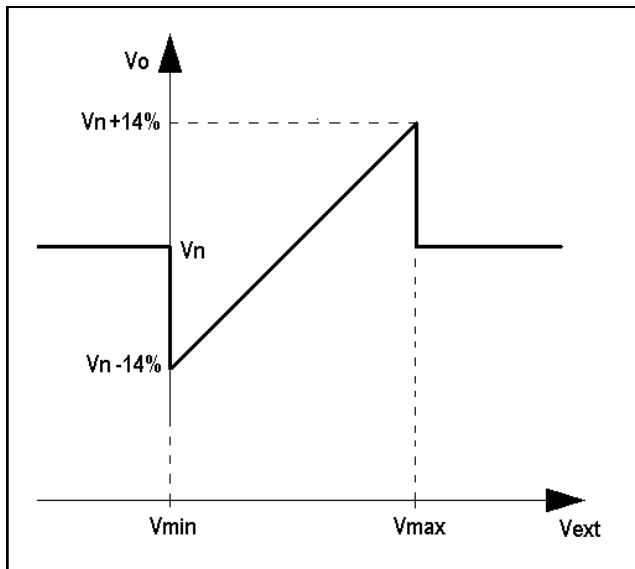

Figure 3a: without saturation of the output voltage upon reaching the input voltage limits
The Vext input (connector CN1 – terminals 10 and 11) permits analogical remote control of output voltage through a 10Kohm potentiometer with a programmable variation range through parameter 16 with respect to the value set (by default the setting is  $\pm 14\%$  (3) starting from revision 10 of the Firmware); if you want to use continuous voltage (4), it will be effective if it is in the range between 0V and +2,5V. The input tolerates voltages from -5V to +5V, but for values exceeding the limits of 0V / +2,5V (or in the event of disconnection), two options are possible: not to take the set point of external input (default configuration) and return to regulation to the voltage value set with the trimmer (if enabled) or with parameter P[19], or keep the minimum (or maximum) value of voltage that can be reached (see figures 3a and 3b). The two options can be set with the **RAM Voltage CTRL** flag in the **Settings/Advanced** menu corresponding to the bit B7 of the configuration word P[10] (see PARAMETERS AND OPERATIONAL DATA - Para. 2). The setting relative to the Vext input are summarised in table 5.